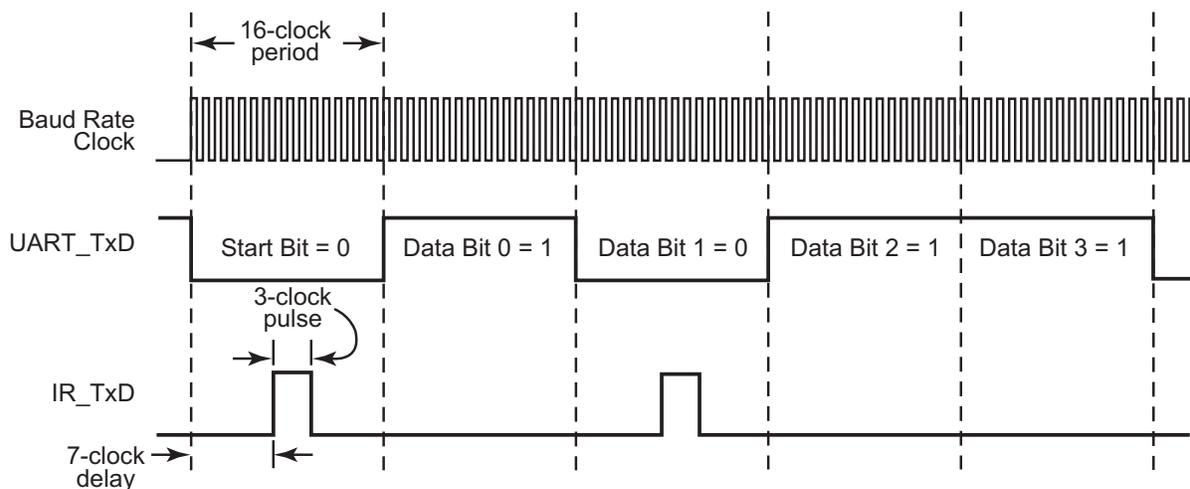

Figure 25. Infrared Data Transmission
The data to be transmitted via the IR transceiver is first sent to UART0. The UART transmit signal (TxD) and Baud Rate Clock are used by the infrared encoder/decoder to generate the modulation signal (IR\_TXD) that drives the infrared transceiver. Each UART bit is 16-clocks wide. If the data to be transmitted is a logical 1 (High), the IR\_TXD signal remains Low (0) for the full 16-clock period. If the data to be transmitted is a logical 0, a 3-clock High (1) pulse is output following a 7-clock Low (0) period. Following the 3-clock High pulse, a 6-clock Low pulse completes the full 16-clock data period. Data transmission is illustrated in Figure 25. During data transmission, the IR receive function should be disabled by clearing the IR\_RXEN bit in the IR\_CTL reg to 0. This prevents transmitter to receiver cross-talk.